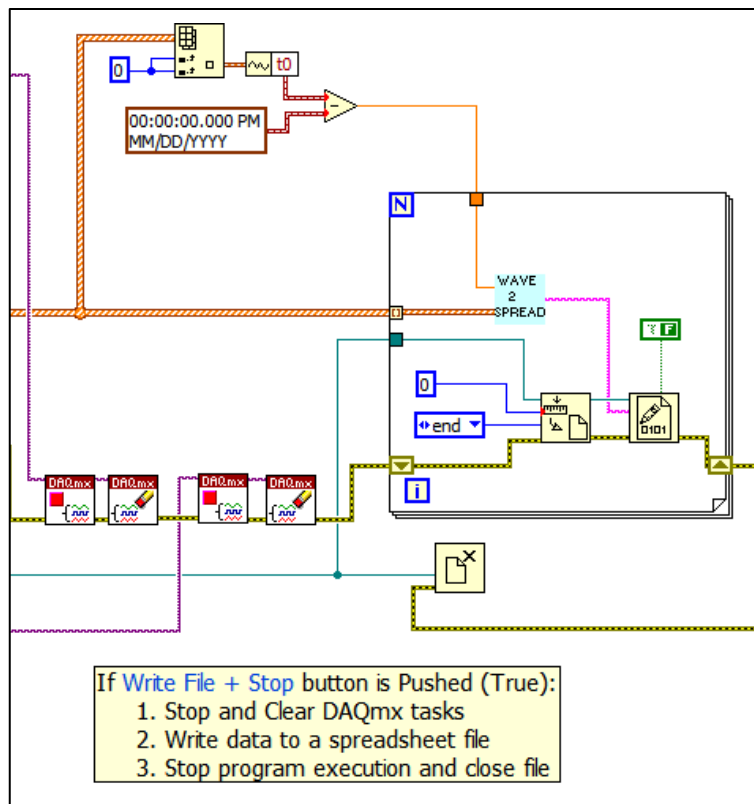

Fig. 6. Segment to Record Data and Stop Execution
- After the user clicks the **Write File + Stop** button, the “while loop” stops, the **input** and **output tasks** are **stopped** and **cleared**, the **data** is **written** to a spreadsheet file, and the **file** is **closed**. Before converting the data to a spreadsheet format, the time values are modified so the **first value** in that data is **zero**. This segment of the block diagram is shown in Fig. 6.